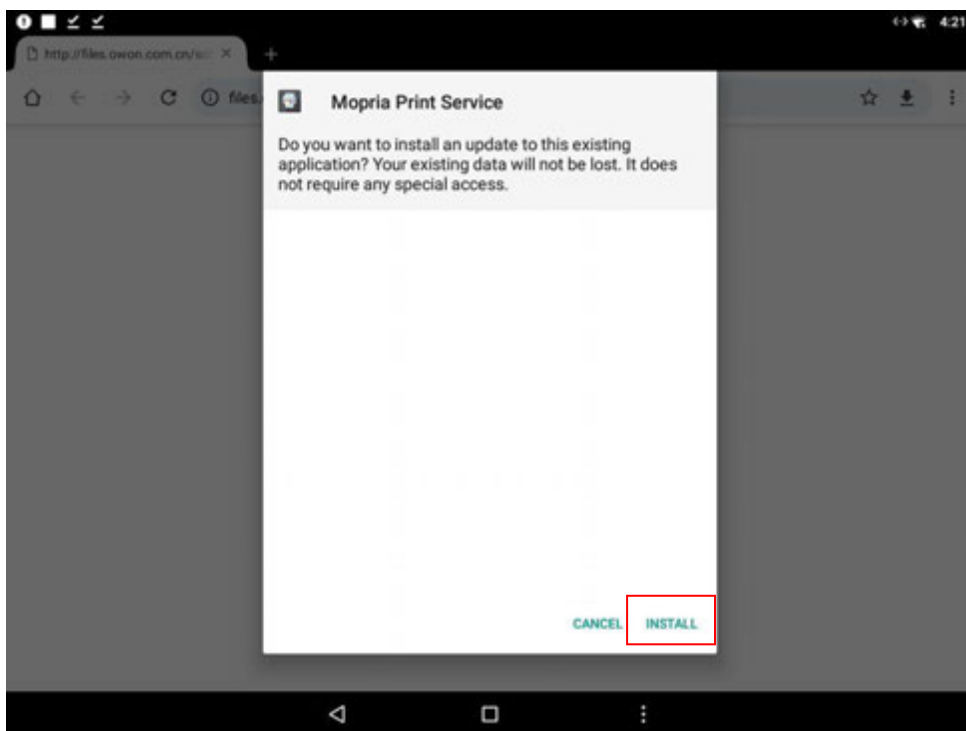

Figure 3
③ Click install, start to install print app, as shown in Figure 3.